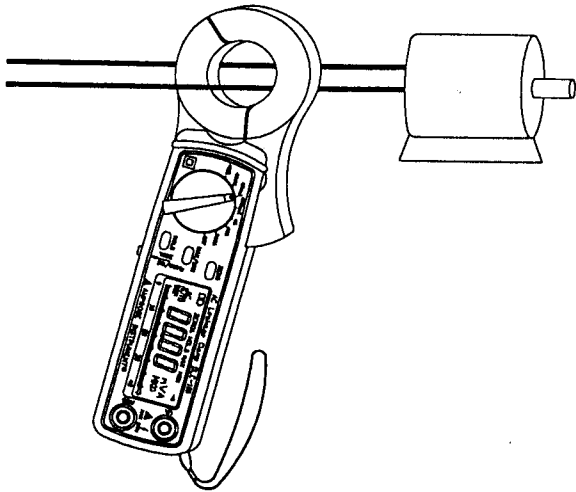

Fig. 6 Load Current Measurement
3. Press the trigger to open the transformer jaw and clamp around the "Hot" conductor. Make sure that the jaw is fully closed.(see Fig.6)